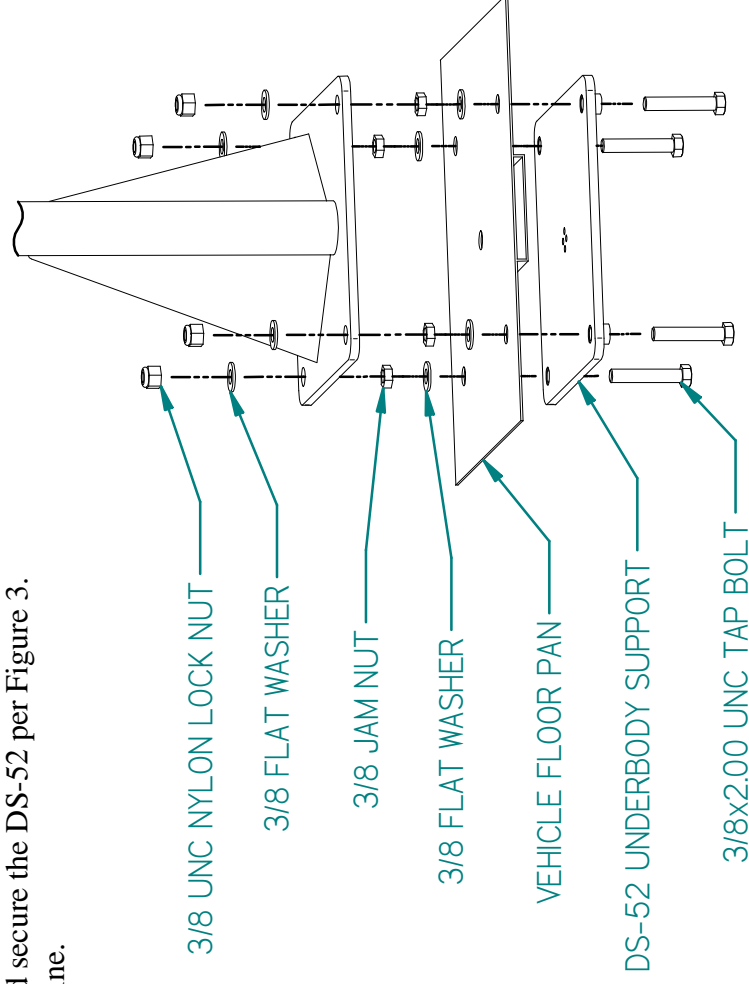

FIGURE 3
2. Thread the (4) 3/8x2.00 bolts into the PEM nuts per Figure 3.
4. Position and secure the DS-52 per Figure 3.